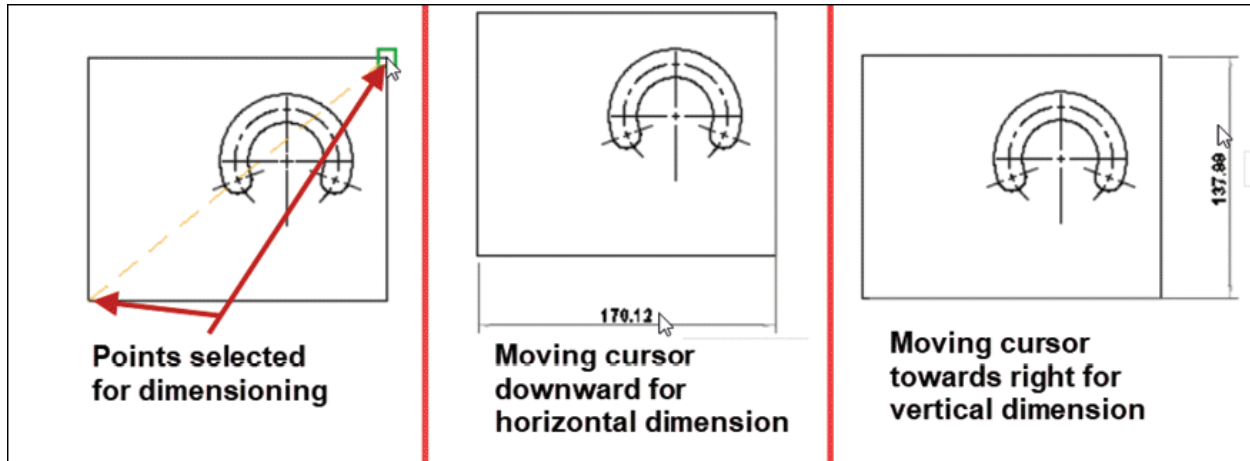

Figure-55. Creating linear dimension
- Move the cursor in desired direction to create vertical or horizontal dimension if the two points are not in aligned vertically/horizontally; refer to Figure-55.